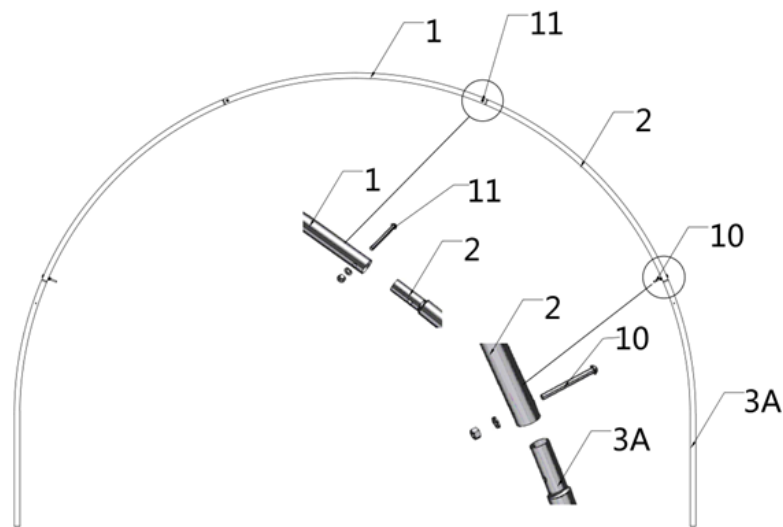

Figure 1
- The building includes 10 trusses : (1) Front truss, (1) rear truss, and (8) middle trusses. The front truss fabric panels and the top fabric (#15) have been connected as a whole.
- Parts used to install the front truss and rear truss in this step (refer to figure 1) :